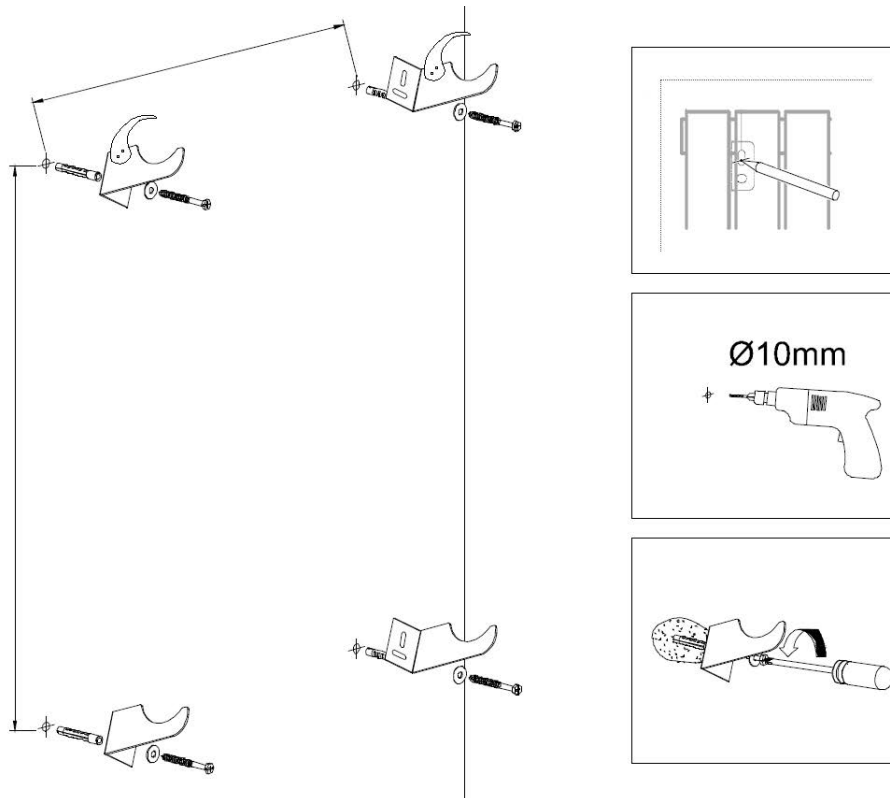

Figure 5 | Fixing the wall brackets
- a. Use the template provided in the box to mark the Bracket positions on the wall (see **Figure 5**).
- c. Position the Upper and Lower Brackets over the holes and fix in place using the Washers and Wall Screws. The Brackets should slot between the bars with their mounting plates facing together: with the Left Brackets on the left and the Right Brackets on the right as you face the radiator (see **Figure 5**, page 10). Make sure that the Upper Brackets (with the Safety Hook attached) are at the top of the radiator, and the Lower Brackets are at the bottom.